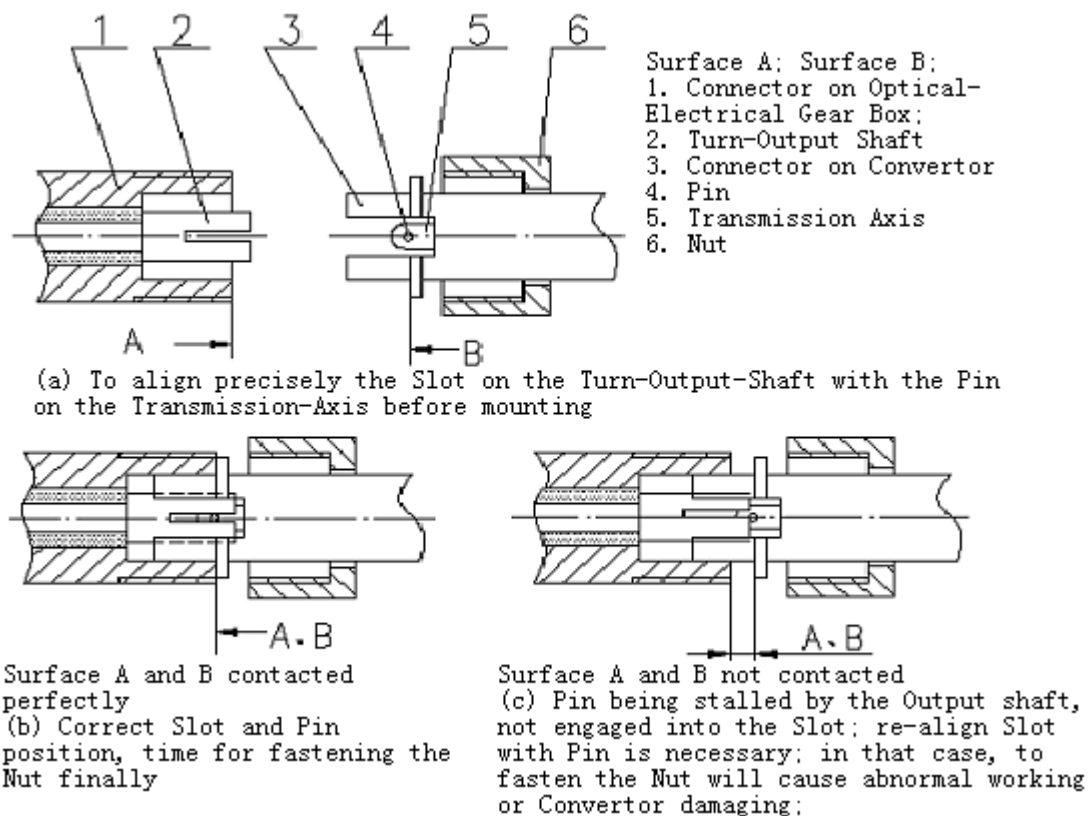

Fig. 15 Optical -Electrical Pulse Converter Installation
- c) to place the Converter on the Flow Meter connector carefully, as shown in Fig.15; to ensure the pin inserting into the shaft slot, to align the Pin with Slot in advance; softly insert the converter connector into the connecting hole; as shown on Fig.15(b), when Surface A and Surface B being contacted perfectly, it means the Pin is into the Slot, then fasten the Nut to fix the Converter; if Surface A and B do not meet (as shown in Fig.15c ), it means Pin being stalled by the Slot, take out the Converter and try to do it again;